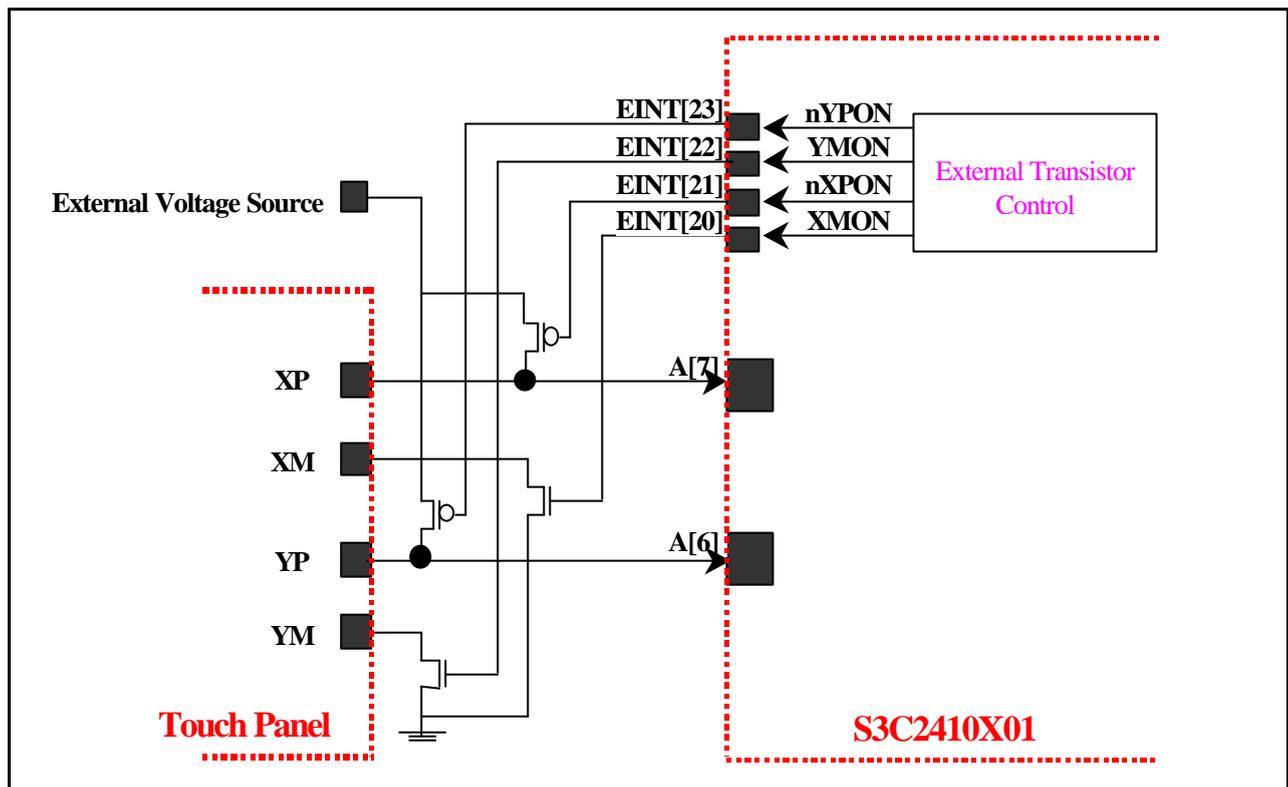

Figure 16-2. Example of ADC and Touch Screen Interface
This function consists of touch screen panel, 4 external transistors, external voltage source, AIN[7] and one of AIN[6:0] (refer to the example, Figure 16-2).
1. Connect pads of touch screen panel to S3C2410X01 using external transistor(refer to Figure 16-2)